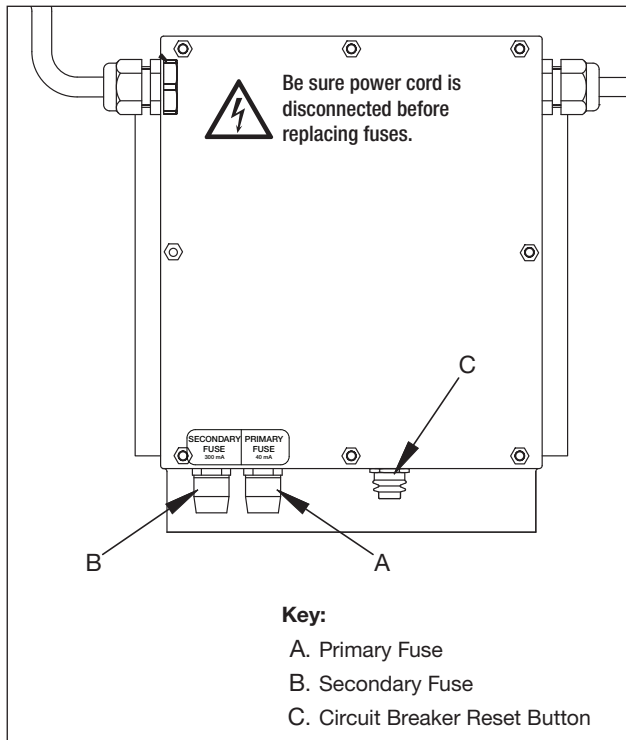

Figure 9, Fuse and Reset Button Locations, Single-Phase Models
6.7 Fuse Replacement (See Figures 9 and 10)
On jacks equipped with a single-phase electrical system, the fuses are located on the lower portion of the jack electrical enclosure. The fuse holders are mounted on the outside of the enclosure and can be assessed without removing the enclosure cover. See Figure 9.
Jack Model Beginning with:	(See figures 9 and 10 for fuse locations)